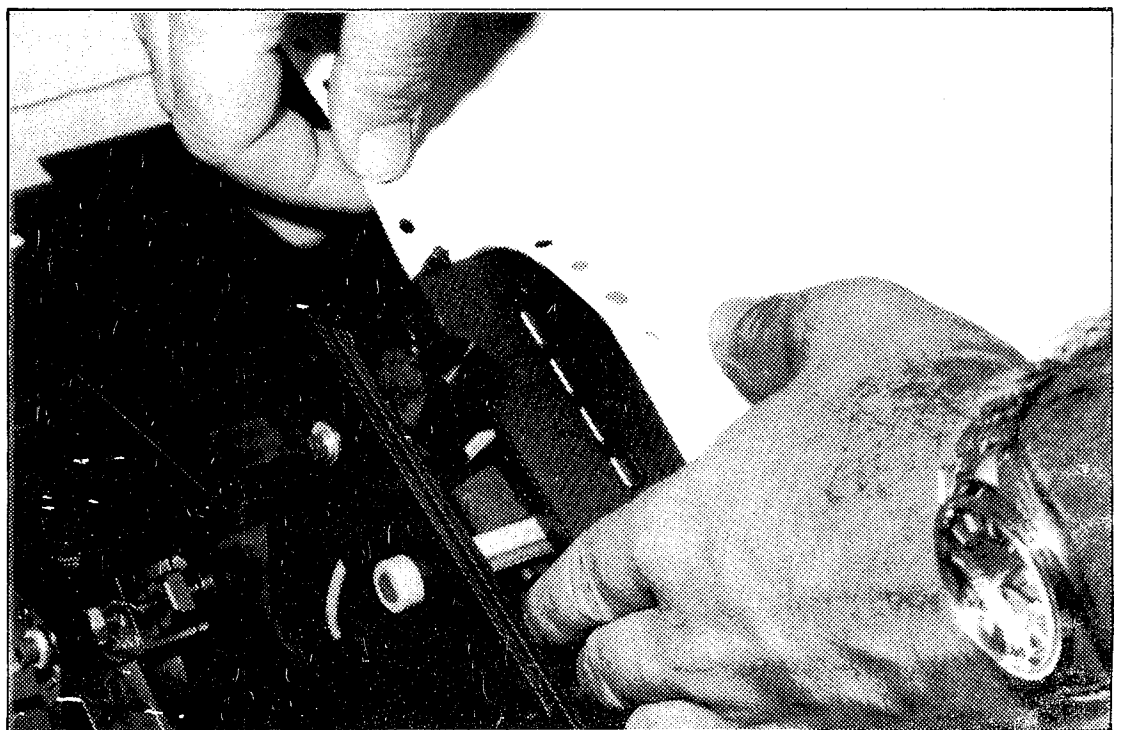

Figure 7. Aligning Paper (Lower Sprocket Teeth)
- Align holes in paper over lower left sprocket teeth with right hand and gently pull paper backwards until snug. Close lower left tractor cover (Figure 7). Repeat this procedure on lower right sprocket teeth. (This step may seem a little awkward the first time; however, if the fingers are used as a feeling guide, aligning the paper holes with the sprocket teeth will be easier to accomplish.)